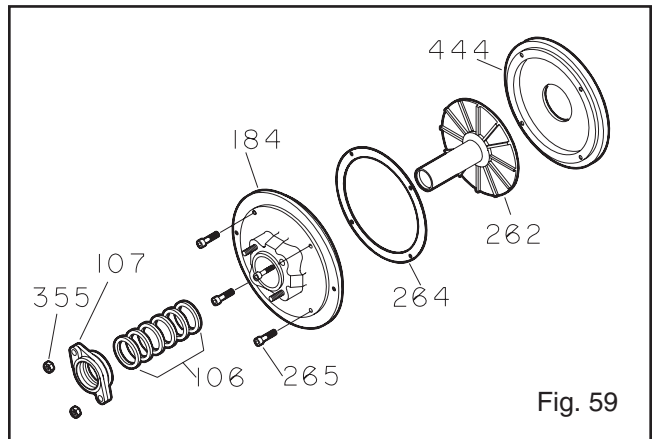

Fig. 59
3. Remove socket head cap screws (265) (Fig. 59).
4. Remove stuffing box cover (184) and gasket (264).
5. Remove repeller (262) from backplate (444).